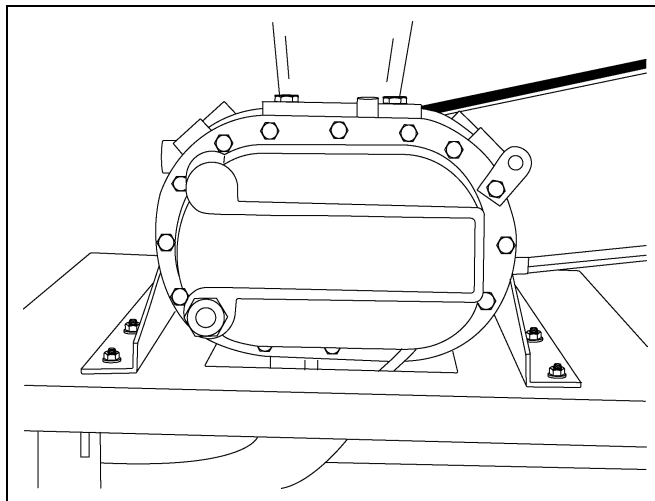

Figure 7I
7. The oil level should be at the center of the sight glass on the blower. Add part # AS-0886 if required. DO NOT operate blower until correct oil level is indicated. The 4" roots blower has sight glasses on both ends. Be sure oil levels are indicated on both sight glasses. (See Figure 7I.)